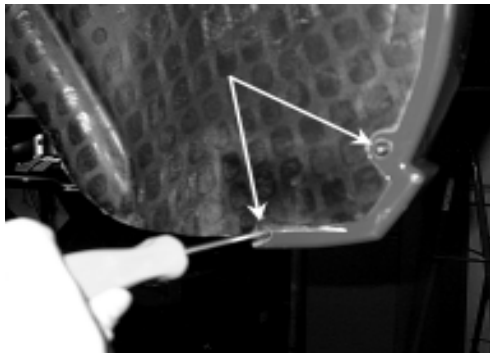

Figure 2
2. Remove the 2 lower screws from wheel opening that secure the wheel well liner to the front fascia. (Figure 2)